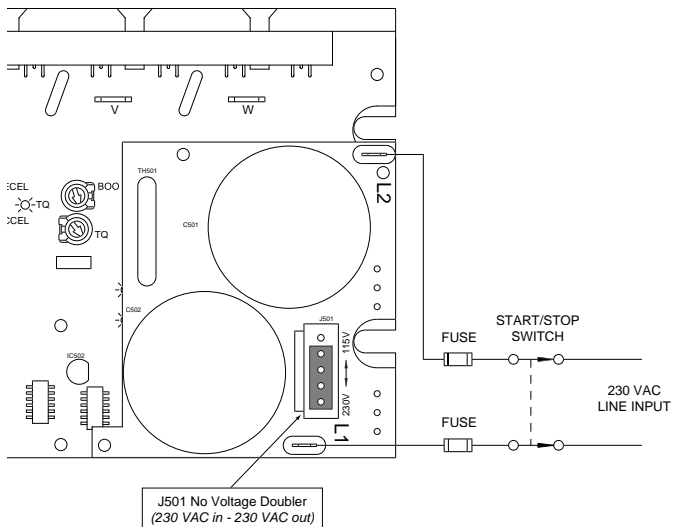

Figure 14. AC Line and Fuse Connections for Doubler FHP Series Drives (Not in Voltage Doubler Mode)
- If the input voltage is **230 VAC** and the desired output voltage is 230 VAC (no voltage doubler), set 115V/230V jumper as shown in Figure 14 (page 26). Add a line fuse to L1 and L2. Do not use the voltage doubler feature with 230 VAC line voltage.